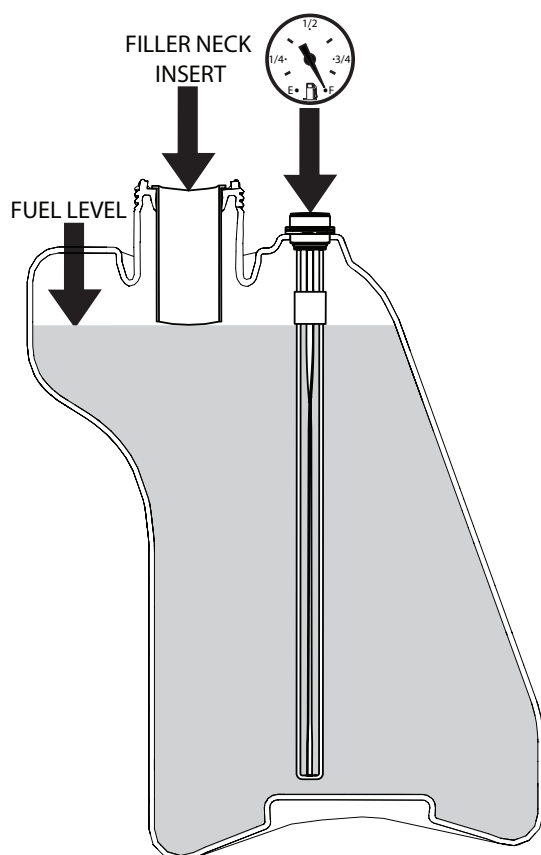

Figure 7-5. C.A.R.B. / EPA Phase 3 Fuel Level
Fill the fuel tank to the bottom of the filler neck insert (approximately 5 gallons for the SVR36 / SVR48 or 8 gallons for the SVR52 / SVR61 indicating Full (F) on the fuel gauge) at the beginning of each operating day. See Figure 7-5. Do not overfill. Use clean, fresh unleaded gasoline with a minimum octane rating of 87 and a maximum of 10% Ethanol.